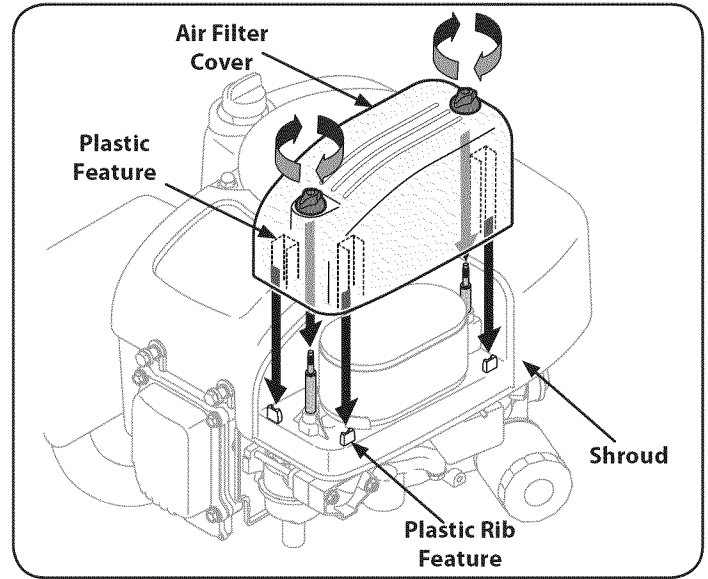

Figure 27
- Attach the air filter cover, making sure to align plastic rib features on the shroud to the plastic features on the air filter cover. See Fig. 27. Turn thumb screws clockwise until snug. Check for any misalignment.